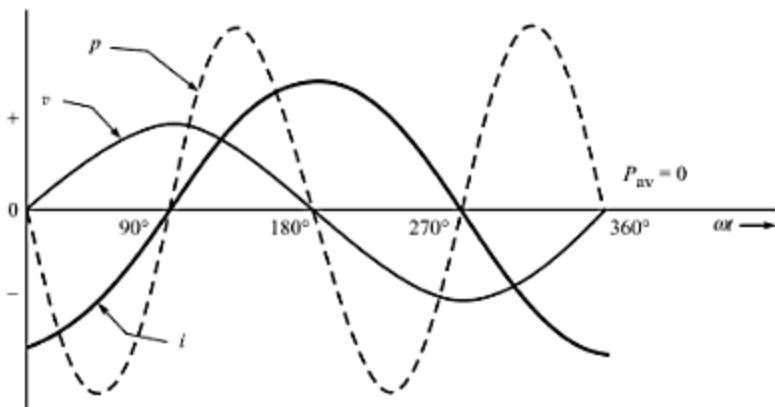

Fig. 9.20 Power waveform for a purely inductive circuit.
**Power and Power Factor** In a purely inductive circuit, the current lags the applied voltage by  $\pi/2$ , as shown by the voltage and current waveforms (drawn for one complete cycle) in Fig. 9.20. The power waveform can be plotted by finding the product  $vi$  from instant to instant. At  $\omega t = 0^\circ, 90^\circ, 180^\circ, 270^\circ, 360^\circ$ , either the voltage or the current has zero value. Hence, at these instants, the power too is zero. Between  $0^\circ$  and  $90^\circ$ , the voltage is positive but the current is negative; and between  $180^\circ$  and  $270^\circ$ , the voltage is negative but the current is positive. Hence, during these intervals the power is *negative*. Between the  $90^\circ$ – $180^\circ$  and  $270^\circ$ – $360^\circ$ , both are either positive or negative. Hence, during these intervals the power is *positive*.
From the power-waveform in Fig. 9.20, we find that the power varies sinusoidally whose average value over a complete cycle is zero. That is, *the power consumed by the circuit is zero*. In fact, in a purely inductive load, same amount of energy keeps on flowing alternately from source to the load and then from load to the source.